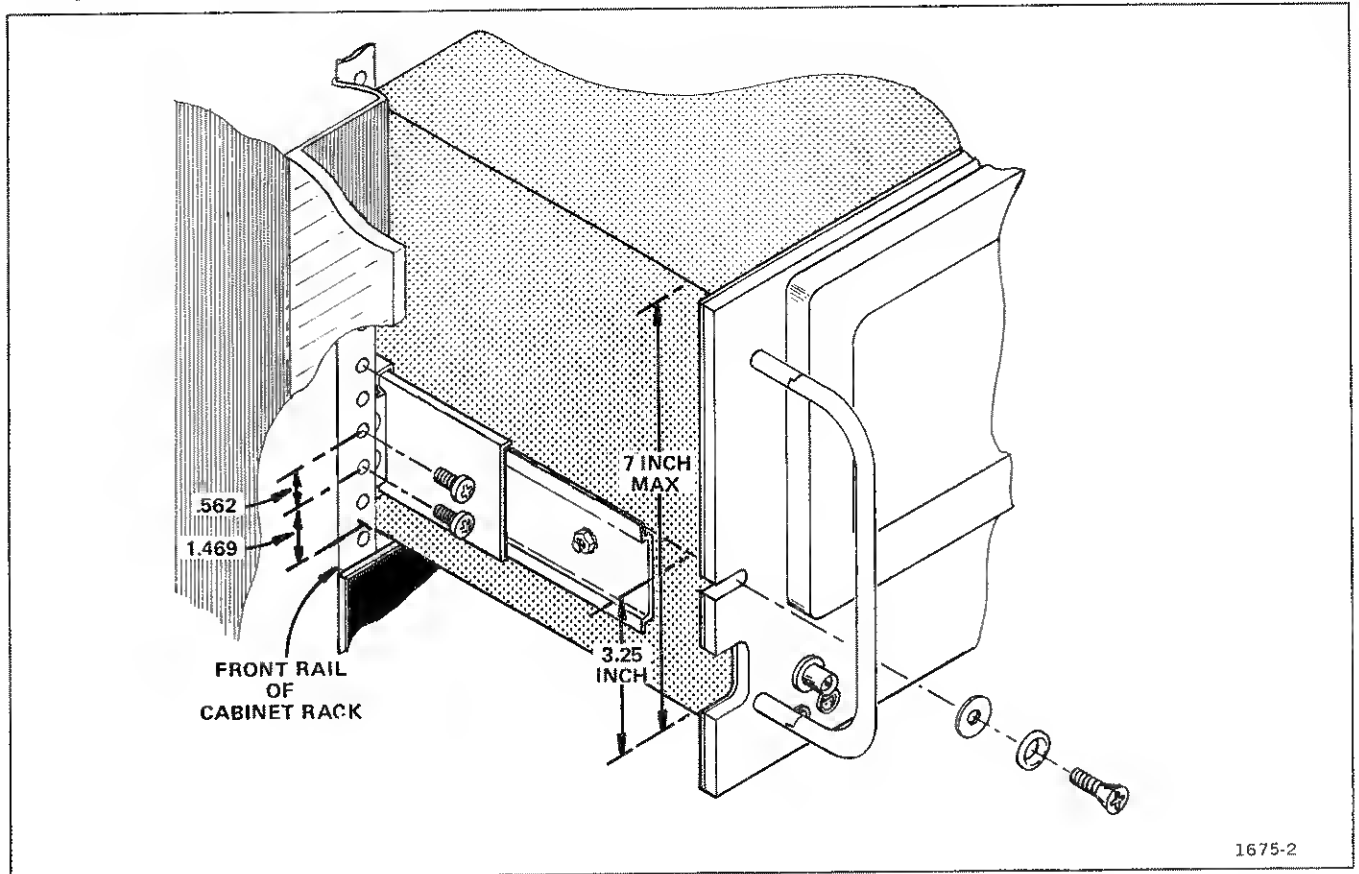

Fig. 3-2. Vertical mounting position of the stationary section and location of the thumb screw securing hole (left stationary section shown).
1. Select the proper front-rail mounting holes for the stationary sections using the measurements shown in Fig. 3-2.
6. After the tracks operate smoothly, connect the power cord and all necessary cables to the rear panel connectors. Push the instrument all the way into the rack and secure it to the front rail of the rack with the securing screws and washers shown in Fig. 3-2. If the securing holes are not tapped, use a "speed-nut" or similar item to install the securing screws.